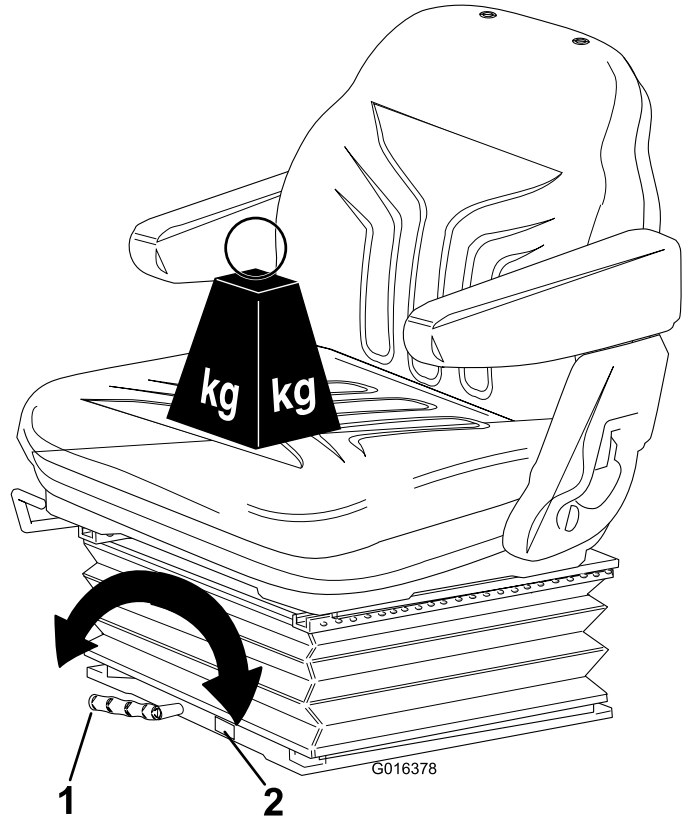

Figure 12
- **Operator weight adjustment:** Rotate the handle clockwise to increase suspension stiffness and counter-clockwise to decrease. The dial indicates when the optimum suspension adjustment has been set according to operator weight (kg) (Figure 12).